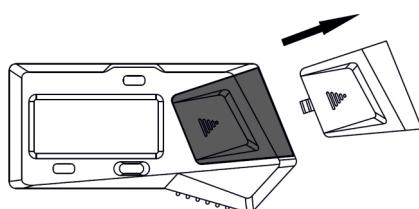

Fig. 1
- » Remove the battery cover (Fig. 1).
- » For a flat or spherical contact point, place the depth gauge bridge on a flat surface. Gently pull the millimeter scale so the contact point touches the surface and set the zero initial value by holding the "SET" button. Then measure depth A (see Fig. 1).